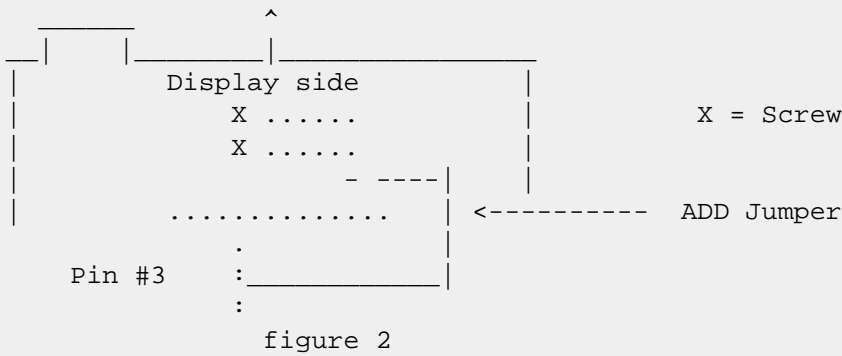

figure 1
3. Remove the shield plate from the VHF Final unit (4 screws). Figure 1.
- Locate the green jumper wire show in figure 1. Using a sharp pair of wire cutters, cut the jumper in half. (green jumper)